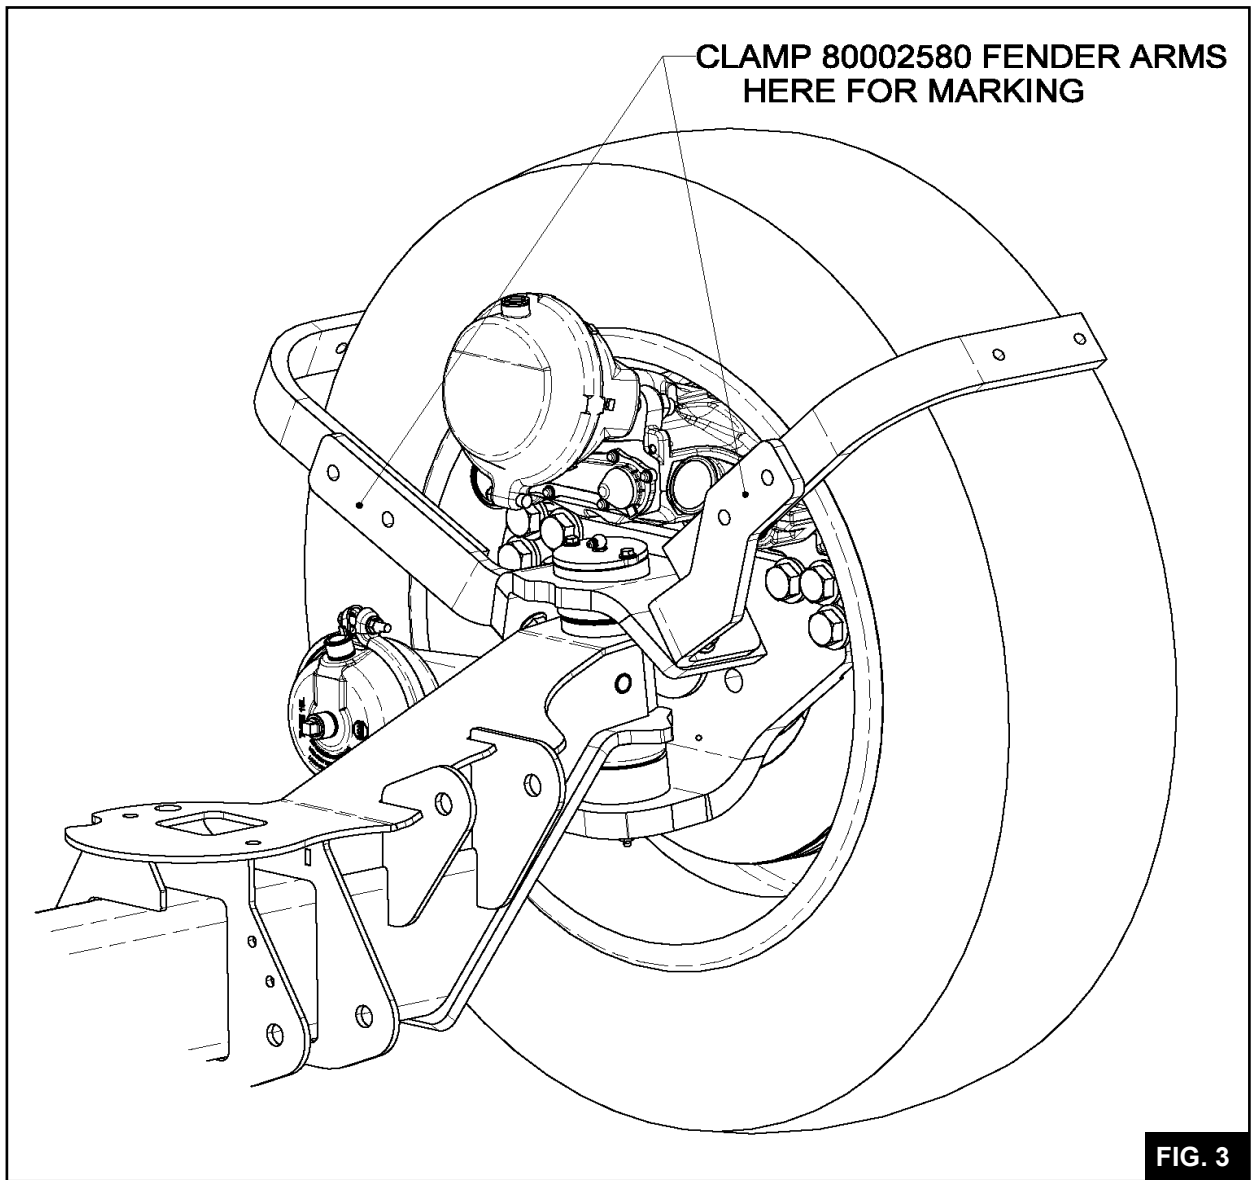

FIG. 3
**3.6** Clamp the fender arms to the mounting brackets as shown in **Fig 3**. Verify that there is approximately 1-1/2" gap between the aluminum fender arm and the tread face of the tire. (See **Fig 4**).